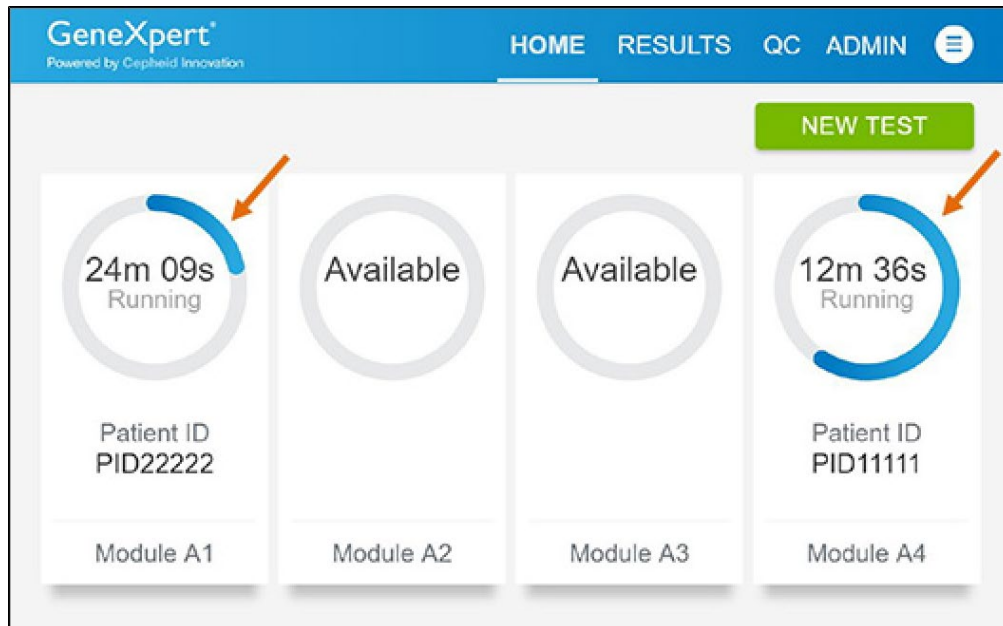

Figure 13. Home Screen showing Two Tests Running
4. After a second test has started, touch the **HOME** button. The status of both tests displays. The **Home** screen displays the module(s) in use with a circular graphic indicator around each test and Patient Identification below the module graphic (see Figure 13).